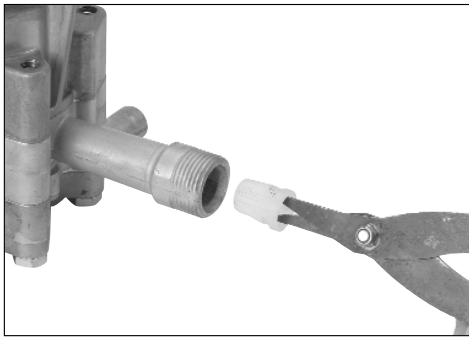

figure 1
1. Remove filter with pair of valve pliers. (figure 1)